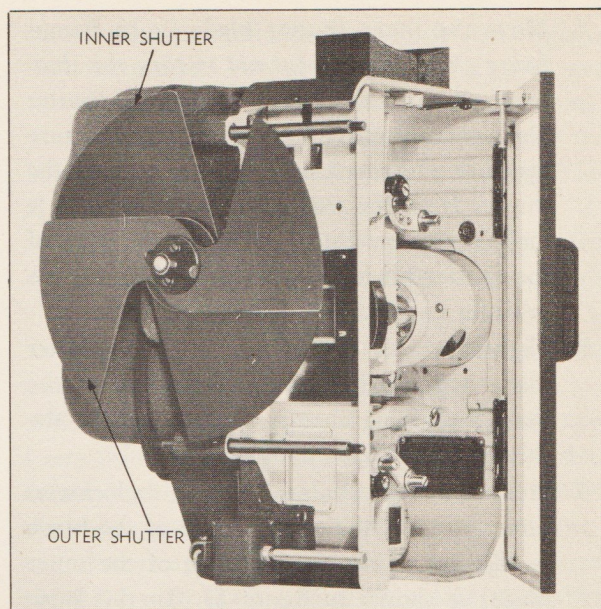

Figure 13—Position of Shutter Blades at Start of Intermittent Pull Down
6. Move the outer shutter blade in a clockwise direction until the cutting edge of the blade is adjacent to the cutting edge of the inner blade, as shown in figure 13. In this position, the picture aperture will be completely covered.
8. Repeat step 3 and then check the position of the shutter blades. The blades should completely cover the aperture opening and the cutting edges should be adjacent to each other, as shown in figure 13, just as the cam pin enters the star wheel slot.